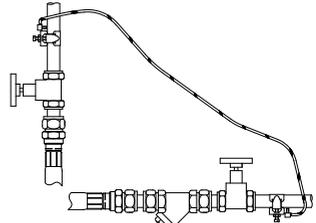

Fig. 7
- 4.15 **Adjacent pipes:** Adjacent suction and delivery pipes should be fitted with earthing clamps in accordance with current regulations (Fig. 7).